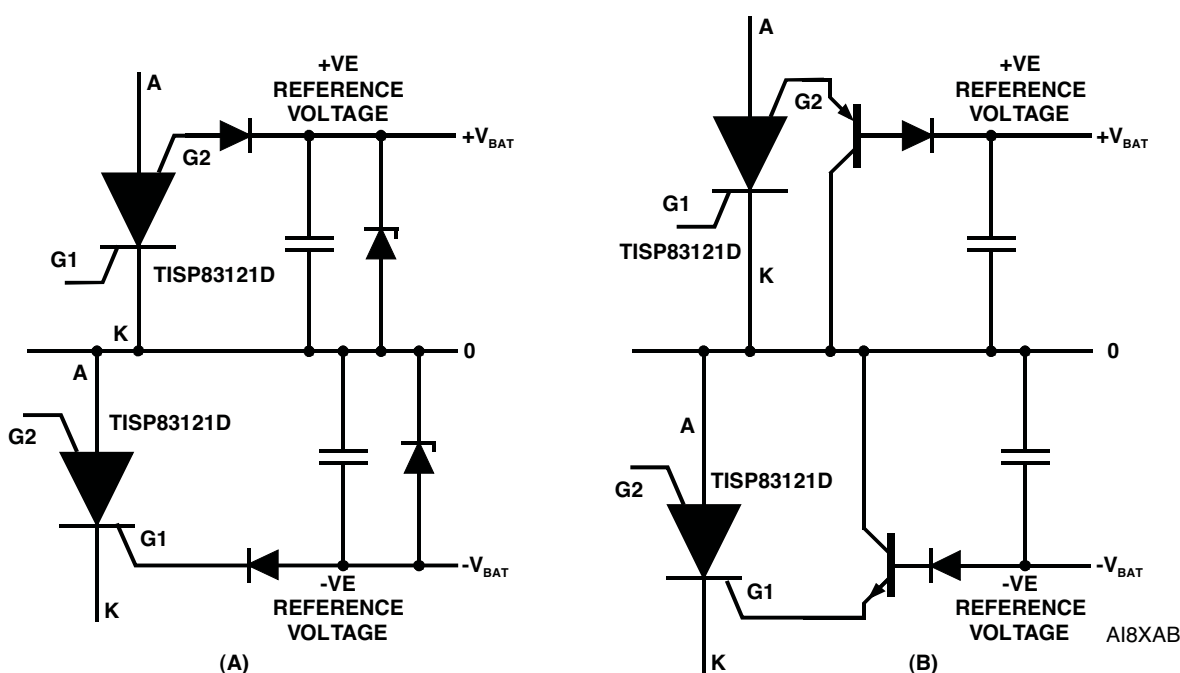

Figure 3. Reference Voltage Control by (A) Breakdown Diodes or (B) by Transistor Buffers
In many designs, the battery supply voltages are generated by switching mode power supplies. This type of power supply cannot be charged like a battery. Feeding a charging current to a switching mode power supply will usually cause the supply to stop switching and the voltage to rise. The gate current of the TISP83121D is a charging current for the supply. To avoid the supply voltage from rising and damaging the connected SLICs, an avalanche diode voltage clamp can be connected across the supply (Figure 3. (A)).
Another approach is to reduce the gate charging current for the supply by a transistor buffer (Figure 3. (B)). If the transistor gain was 50, a 200 mA gate current would be reduced to a supply charging current of $200/50 = 4$ mA. In both cases, the dissipation in the control devices can be substantial and power capability needs to be taken into account in device selection.